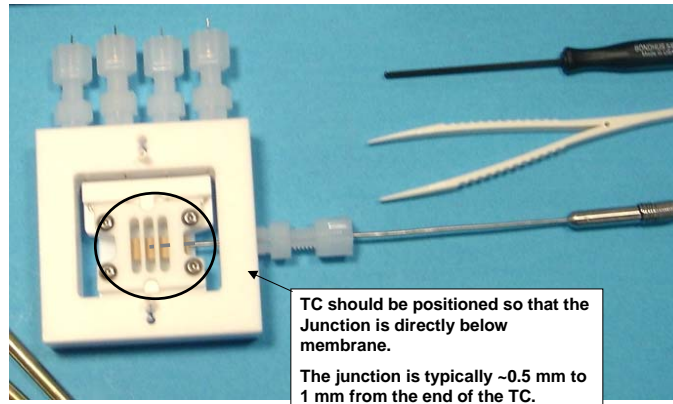

Figure 7. Internal Thermocouple Placement
Insert **Type T** internal thermo couple (TC) into the Bottom Membrane Clamp beneath the membrane as shown in Figure 7. The TC should be positioned so that the junction is directly below the membrane. The junction is typically ~0.5 mm to 1 mm from the end of the TC. Once placed, snug the fitting around the TC.